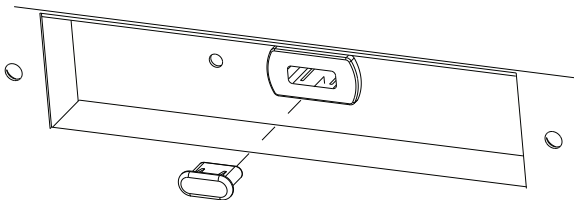

Fig. 2
2. Remove the silicone plug from the USB-C receptacle (see **Fig. 2**).